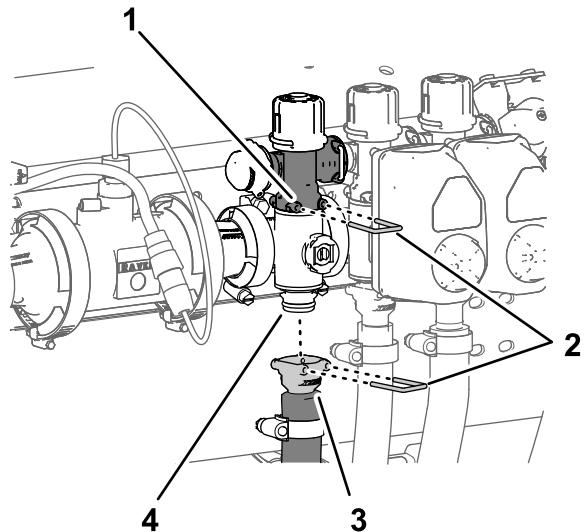

Figure 115
1. Remove the quick-connect pin that secures the quick-connect coupler for the section-bypass valve to the section-manifold valve (Figure 115).
2. Remove the quick connect pin that secures the quick-connect coupler for the section supply hose to the manifold for the quick-connect fitting of the section-manifold valve (Figure 115).